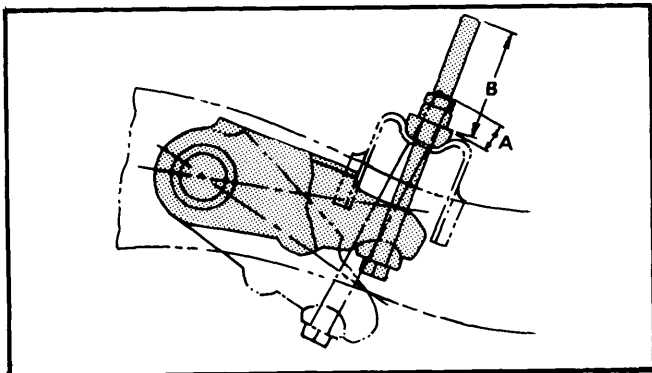

Fig. 2 View Showing Measuring Points for Installation of Anchor Pin
2) Install anchor arm and tighten adjusting nut to obtain specified dimension for "A" when bar is in contact with rebound bumper. See Fig. 2.